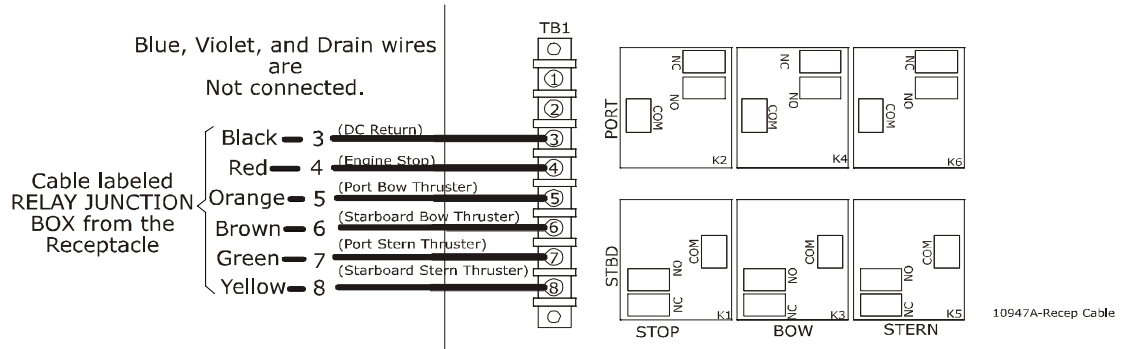

Figure 22: Junction Box Receptacle Cable Wiring Diagram
- E) Make the cable connections within the Relay Junction Box as indicated on “Figure 22:” on page 21.